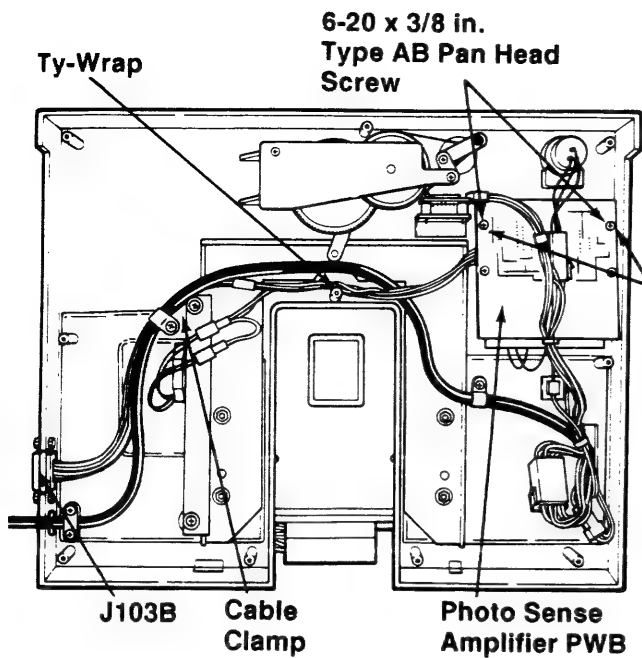

Figure 2-3.2J
28. Install the Photo Sense Amplifier PWB beneath the Wiring Harnesses (Figure 2-3.2J) with four self-tapping screws (Item 10). Add a Washer (Item 12) as a spacer between the board and the frontmost standoffs to allow more space for the Blip Sensor Connectors if needed to position pots in Control Panel Window.
29. Secure all loose wires to the Base Standoffs using three Ty-Wraps (Item 18) and existing Cable Clamp. See Figures 2-3.2J and 2-3.2L.